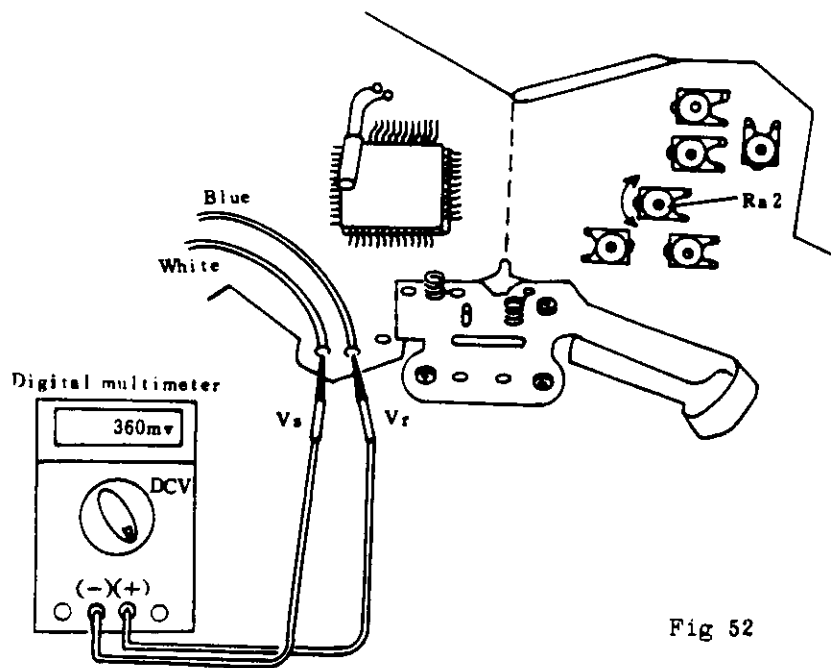

Fig 52
- ① Connect (+) of digital multimeter to V_r , (-) of digital multimeter to V_s , and then read the voltage. See (Fig 52).